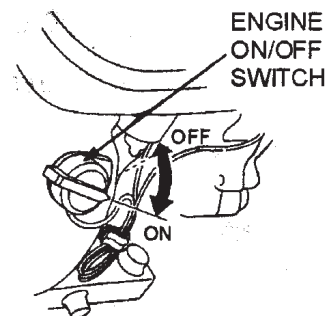

Figure 12. Engine ON/OFF Switch
5. Place the ***engine ON/OFF switch*** (Figure 12) in the "**ON**" position.